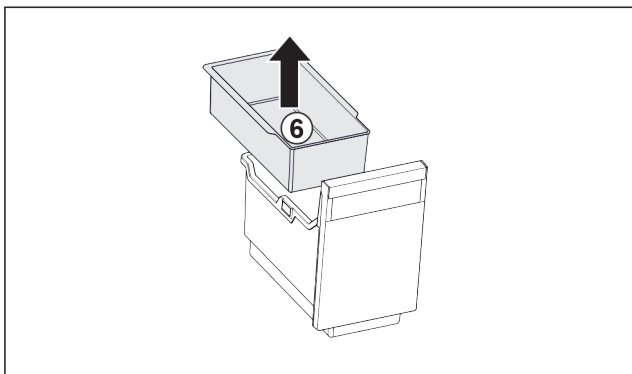

Fig. 81
- ▶ Remove the hang-on tray Fig. 81 (6).